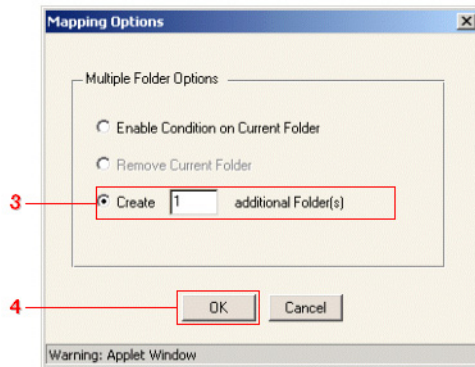

Figure 22-3. Select the **Create...additional Folder(s)** radio button to create a copy of your target folder.
- ③ The Mapping Options dialog appears. **Select the Create...additional Folder(s)** radio button, and type a “1” into its field (see Figure 22-3 below).
- ④ Click **OK** to dismiss the dialog box and continue.